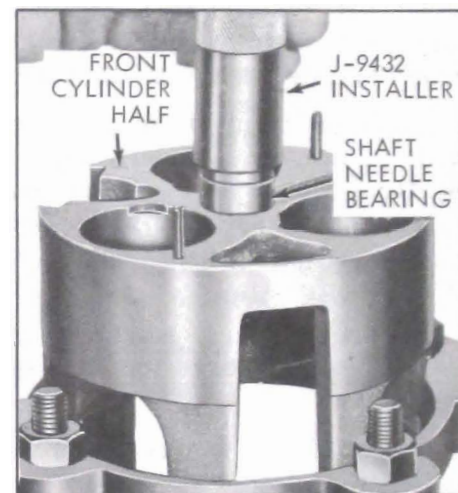

Figure 11-72—Installing Shaft Needle Bearing
16. Examine the shaft needle bearings. There is one in each cylinder half. If a bearing is damaged, remove bearing with a suitable socket or punch. Install new bearing with J-9432 so that lettering on bearing is toward outside of cylinder half. See Figure 11-72.